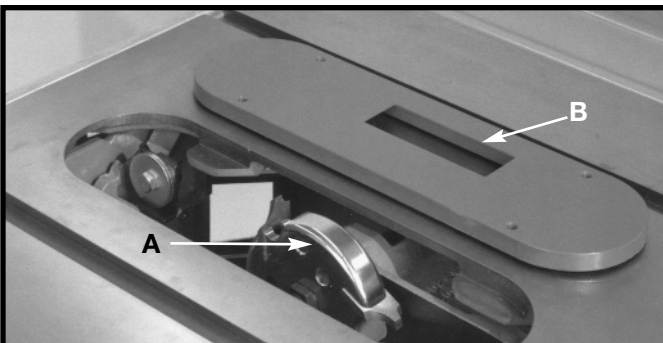

Fig. 60
1. A moulding cutterhead (A) Fig. 60 is shown assembled to the saw arbor. **Also, the accessory moulding cutterhead table insert (B) must be used in place of the standard table insert.**